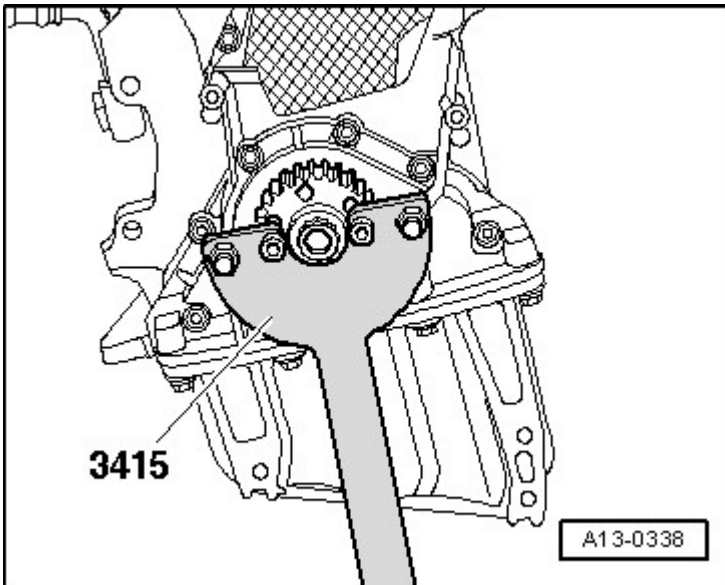

Fig. 8: Crankshaft Toothed Belt Sprocket, Removing And Installing
- Use counter support 3415 for loosening and tightening, refer to **Fig. 8**